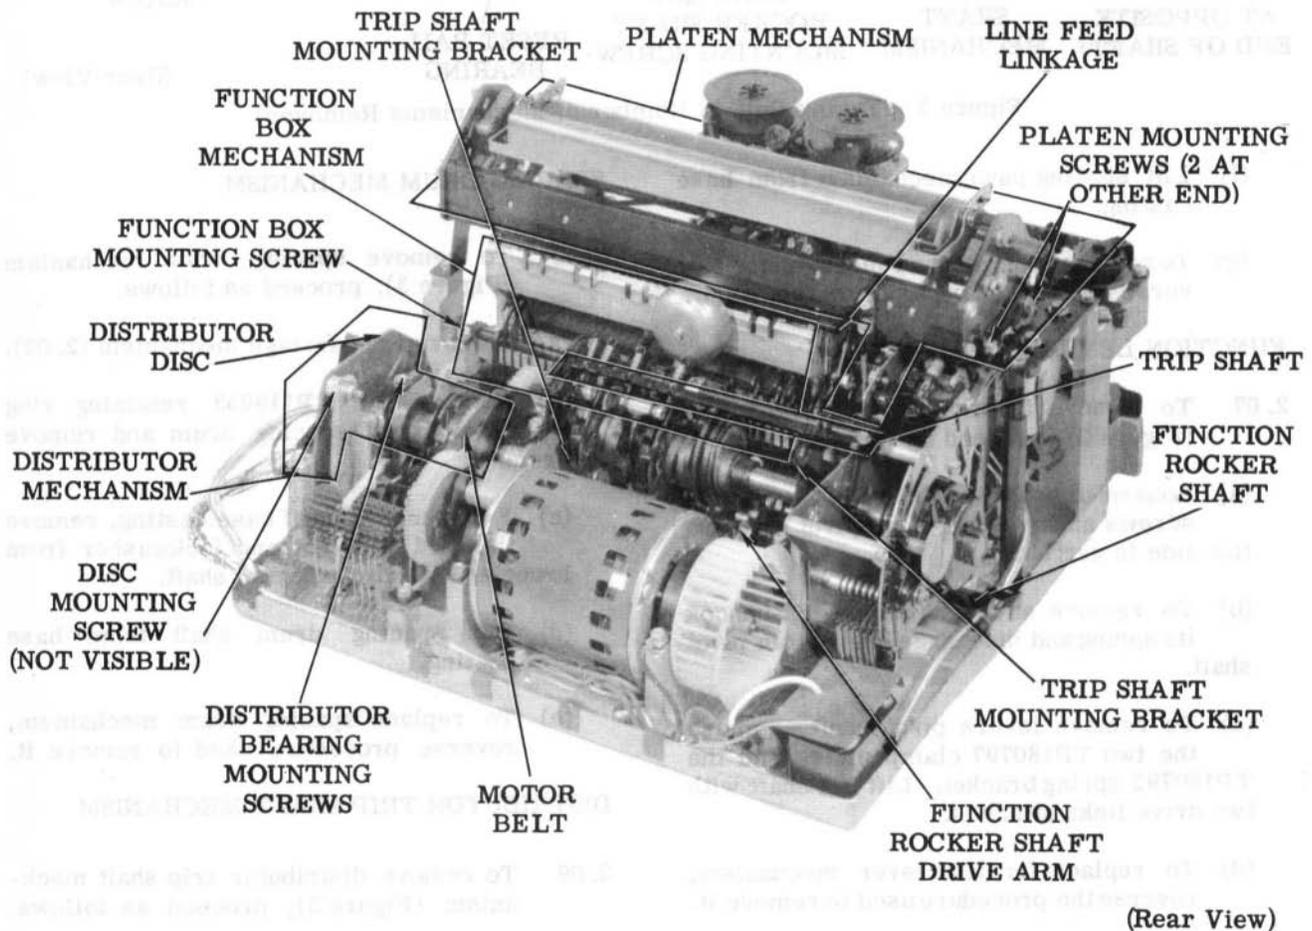

Figure 4 - Typing Unit
2.04 To remove codebar mechanism (Figure 4), proceed as follows.
2.10 To remove distributor mechanism (Figure 4), proceed as follows.
- 2.13 To remove platen mechanism (Figure 4), proceed as follows.
- 2.14 To remove platen mechanism (Figures 4 and 5), proceed as follows.
- 2.15 To remove form-out mechanism (Figures 4 and 5), proceed as follows.
2.16 To remove trip shaft mechanism (Figure 4), proceed as follows.